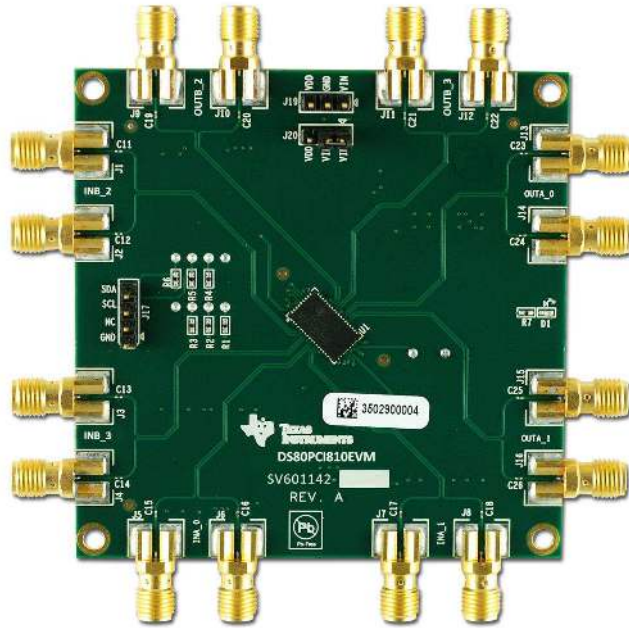

Figure 1-1. DS80PCI810EVM Front
- For 3.3 V mode: V_{IH} tied to V_{IN} (see Figure 1-1)
- For 2.5 V mode: V_{IH} tied to V_{DD} (see Figure 1-1)